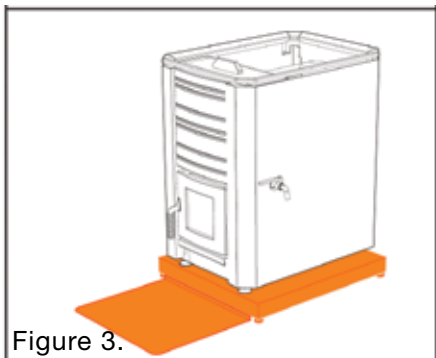

Figure 3.
**Figure 3.** If the sauna heater is installed on a floor made of combustible materials, an installation base must be used. A piece of sheet metal must be installed in front of the installation base, which extends at least 100 mm over the sides of the heater door and at least 400 mm in front of the sauna heater. The sheet metal edges facing the sauna heater must be turned up, so that coal cannot get under the installation base.